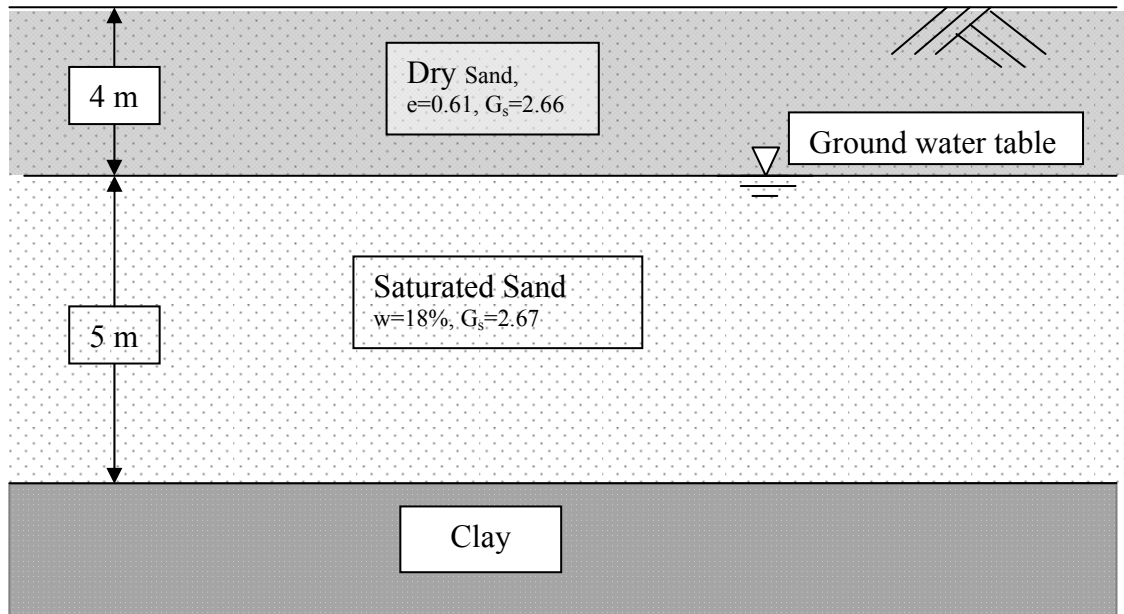

Figure 4
- c) A soil profile is shown in Figure 4.